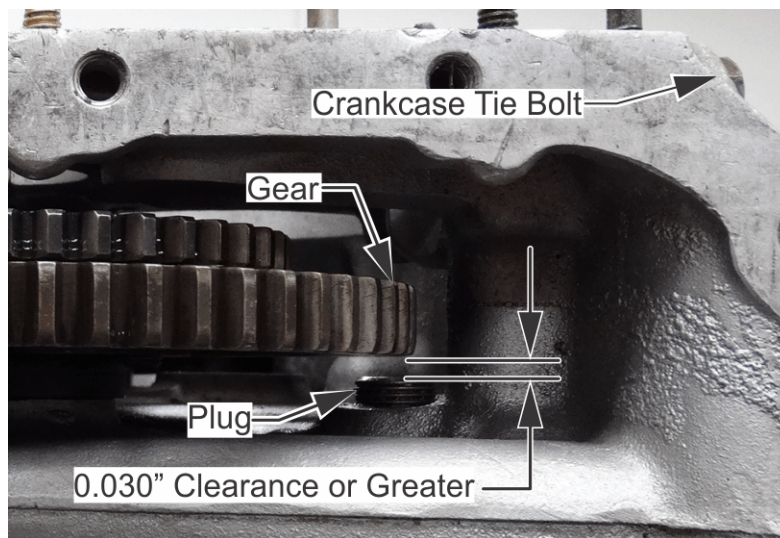

Figure 20. Lower Rear Oil Gallery (Control) Plug, Sandcast 1-3-5 Crankcase Half
CAUTION: Camshaft gear (P/N 656818) is 0.060" wider at the circumference than the replaced camshaft gears (P/Ns 631845, 655430, 655516, or 656031). For engines with a Sandcast crankcase, the assembler must inspect and sustain a minimum clearance (0.030" or greater) between the camshaft gear (P/N 656818) and the oil gallery plug at the rear crankcase below the starter adapter (see step k. and Figure 20)).
- k. Measure the clearance between the oil gallery plug and the camshaft gear using a feeler gauge (see Figure 20). Ensure the minimum clearance is 0.030" or greater. If the clearance is less than 0.030":